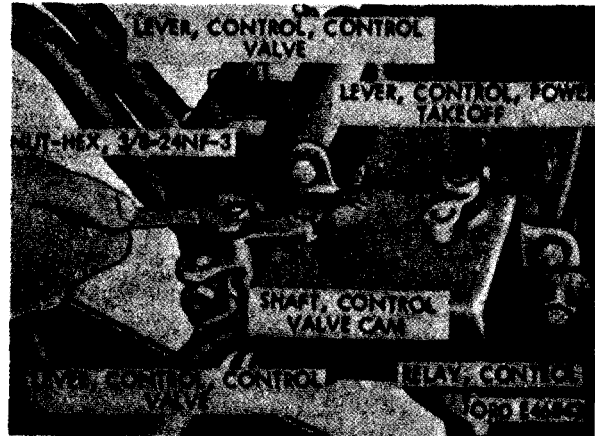

Figure 74. Remounting control valve control levers.
- (3) *Remove control relay.*
- (a) Remove hex-nut, lockwasher, and capscrew, and remove the two control valve levers (fig. 74).
- (b) Install two control valve control levers (fig. 74) over the spool trunnion and control valve cam shaft, and secure with one cap screw, one lockwasher, and one hex-nut.